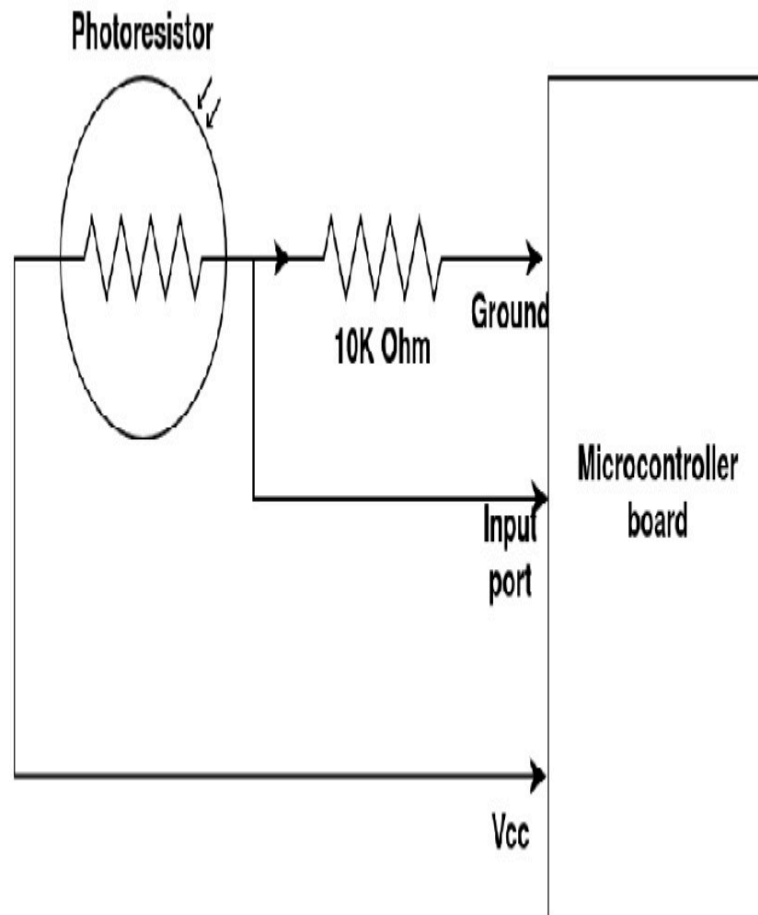
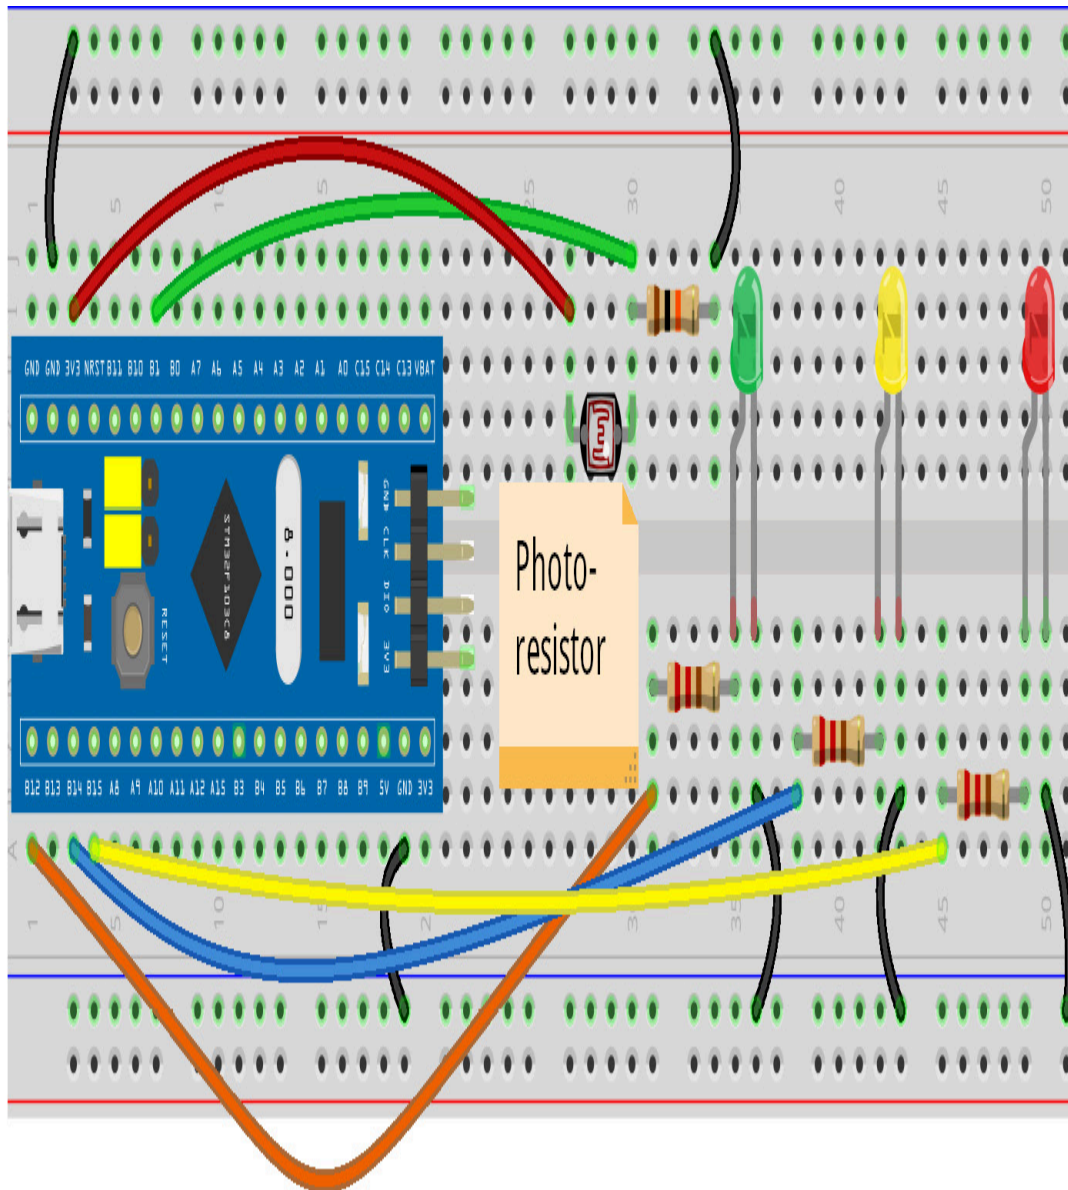
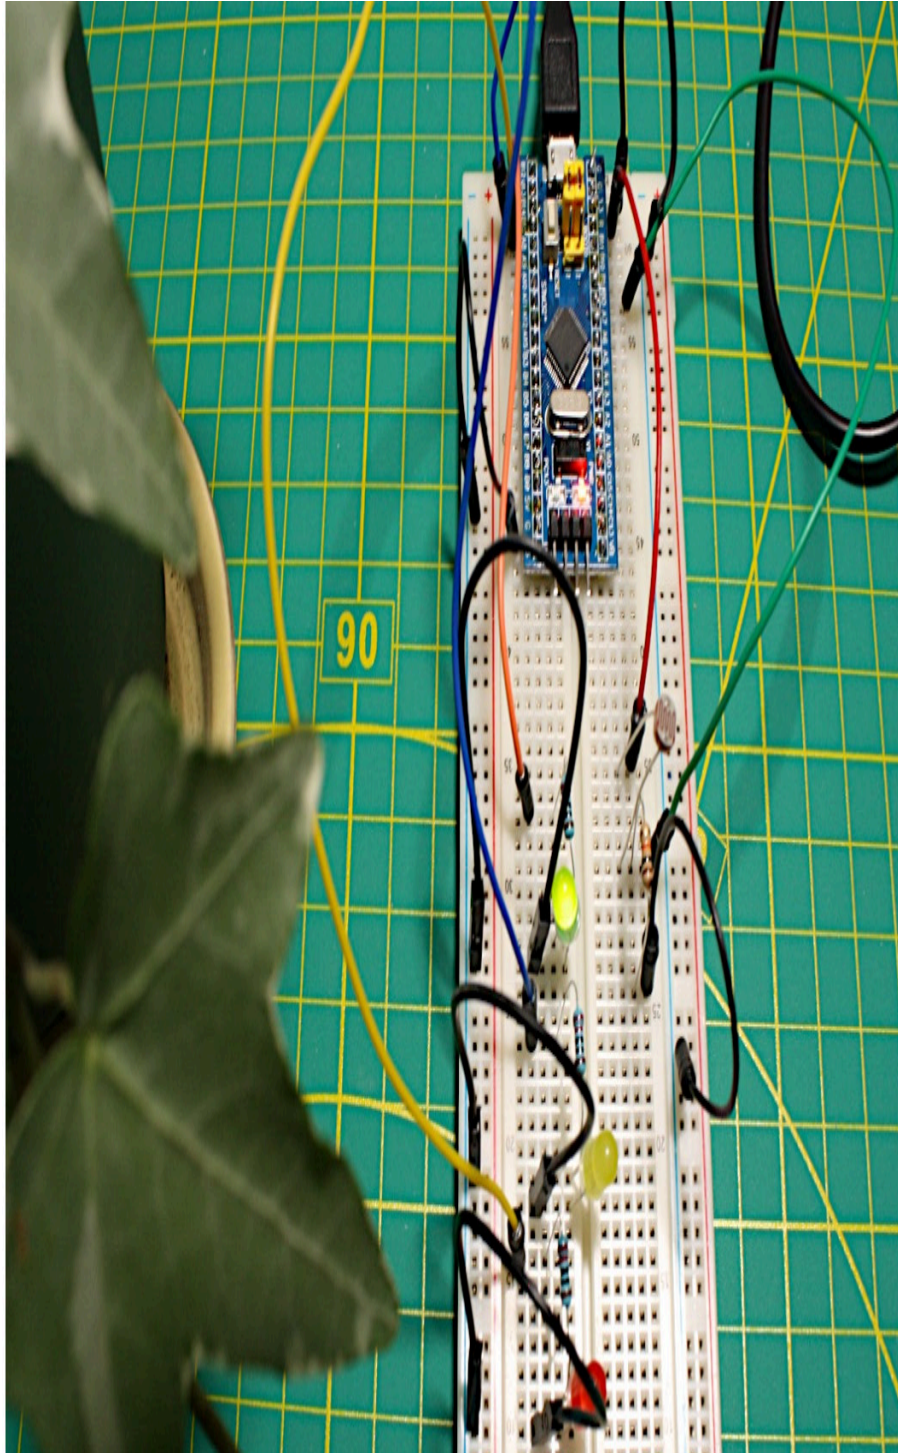

Figure 4.3 – Electrical diagram with a photoresistor
Figure 4.4 – The LEDs and photoresistor connected to a Blue Pill board
Figure 4.5 – Connecting the photoresistor and the LEDs to the Blue Pill
*Figure 4.3* shows an electrical diagram containing a photoresistor and how it can be connected to a microcontroller board.
As you can see in *Figure 4.3*, a photoresistor's electrical symbol is represented with a circle and some incoming arrows indicating that light rays are hitting the photoresistor's surface. The photoresistor is connected to the power supply to a **Ground** pin from a microcontroller board and the other pin is connected to a voltage pin (**Vcc**) and an **Input port** from a microcontroller board. That is one way to connect a photoresistor. The **10K ohm** resistor works as a pull-down resistor. This is because the input port where the photoresistor is connected to at some point will receive zero volts when the photoresistor is not receiving any light. Remember that we
The connection of a photoresistor sensor to a Blue Pill microcontroller board is simple. It can be directly connected to an input analog port, provided that you use a pull-down resistor. The circuit shown in *Figure 4.4* describes how to do it, and it is based on the electrical diagram from *Figure 4.3*.
As you can see in *Figure 4.4*, the three LEDs will show the amount of light detected by the photoresistor. The following are the steps for connecting the components to the Blue Pill board:
1. Connect the Curiosity Nano's GND pins to the upper and lower rails, of the solderless breadboard, as shown in *Figure 4.4*.
We are connecting a **10K ohm** pull-down resistor to the Blue Pill's input port **B1**, as shown in *Figure 4.4*, forcing the port to have a 0-volt input when there's no voltage coming from the photoresistor.
*You may want to try a different value for the pull-down 10K ohm resistor connected to the Blue Pill, shown in Figure 4.4, depending on the light level range that you would like to detect.*
*Figure 4.5 shows how all the components are connected to the microcontroller board. This circuit is based on the Fritzing diagram shown in Figure 4.4.*
As you can see in *Figure 4.5*, the photoresistor is connected to the Blue Pill's port B1. The green LED is turning on, meaning that the
The next section describes how to code the photoresistor example shown in *Figure 4.4* and *Figure 4.5*.
The following code should run on the microcontroller board circuit shown in *Figure 4.4* and *Figure 4.5*: